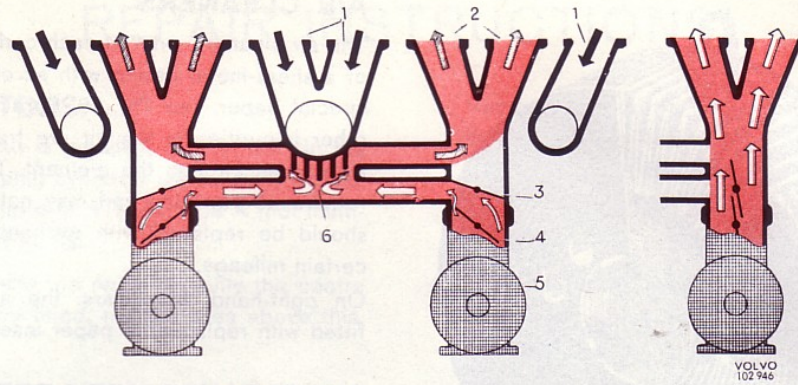

Fig. 16. Exhaust emission control
This system results in a more complete combustion with lower traces of carbon-monoxide and hydrocarbons in the exhaust gases. This is achieved by means of a modified induction system which permits a more exact and leaner fuel/air mixture. Fig. 16 shows the principle of this system as applied to the B 18 B engine.
The induction manifold houses two secondary throttles (3, Fig. 16). During normal driving conditions (using low output) the throttles (3) are closed (left-hand section of Fig. 16) so that the fuel/air mixture from the carburettors is led to a central preheating chamber (6) where the mixture is heated by the surrounding exhaust gases and is completely vaporized.
The air cleaners, one on each carburettor, consist of a sheet-metal casing with an element made of special paper, see Fig. 16. Particles of dust and other impurities in the air are trapped when the air passes through the element. The air cleaners require no servicing and may not be oiled. They should be replaced with exchange units after a certain mileage.